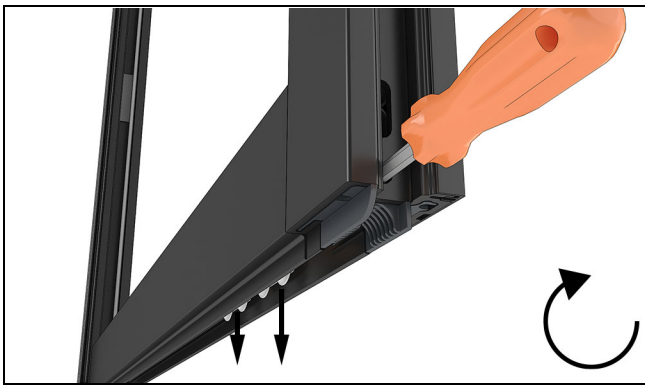
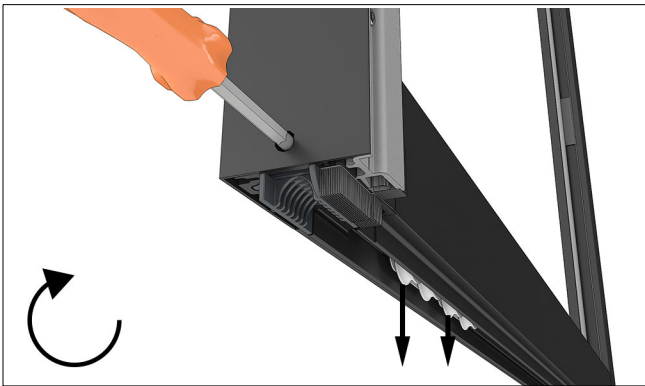

Figure 189
Figure 190
5. Insert a 5mm hex wrench into the adjustment hole(s) and raise or lower the rollers accordingly. Rotate the adjustment screw clockwise to raise the panels. See Figure 189 and Figure 190.